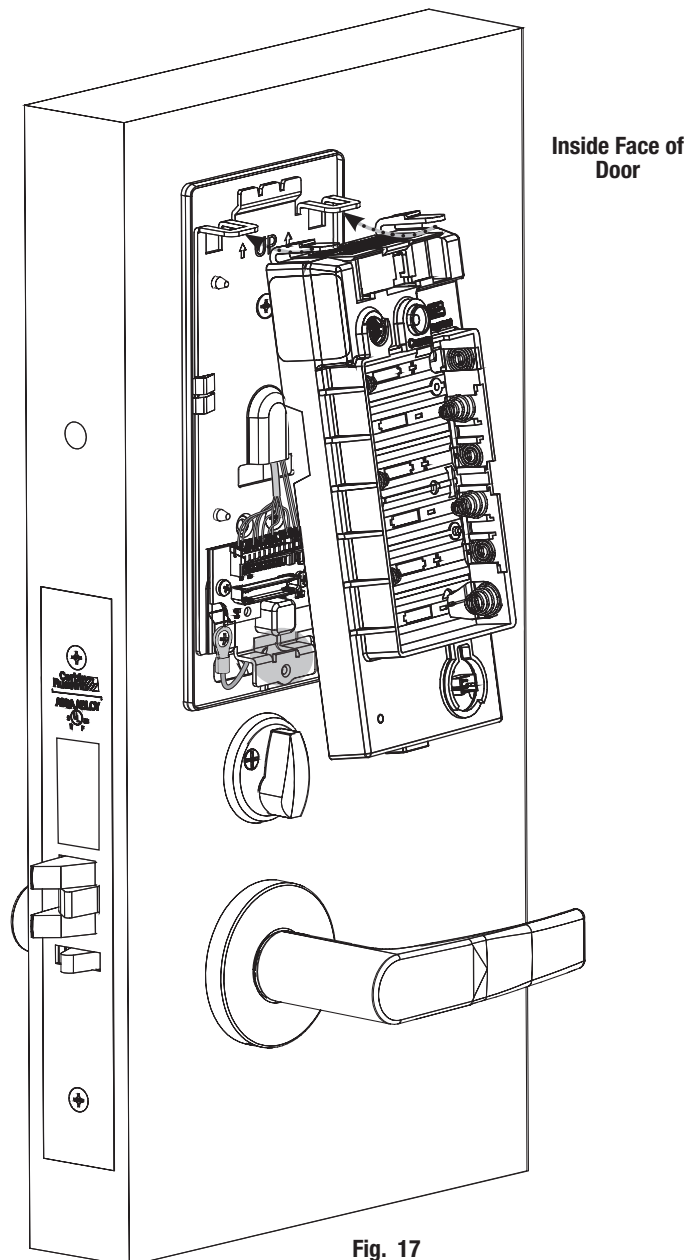

Fig. 17
- a. Insert top tabs of controller into slots on mounting plate (Fig. 17).